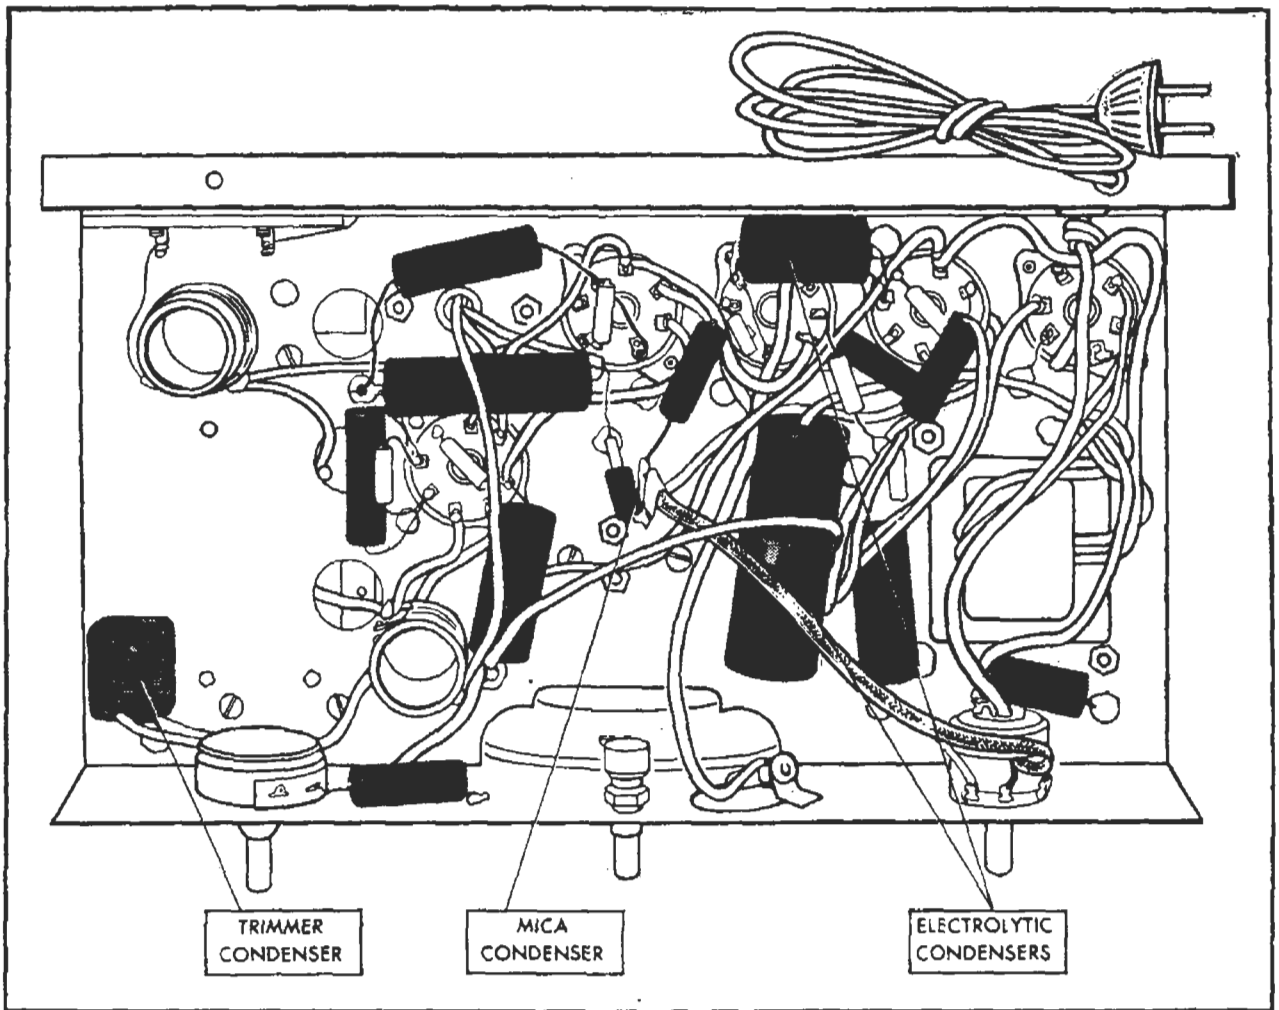

FIG. 17. This shows the condensers underneath the chassis of our superhet receiver. The condensers not marked are paper condensers.
Four different types of condensers are to be found underneath the chassis of our superheterodyne receiver—*paper* condensers, *electrolytic* condensers, *mica* condensers, and *trimmer* condensers. The illustration in Fig. 17 shows all of these condensers.
**Mica Condensers.** There is only one *mica condenser* in our receiver. It is a tiny unit encased in molded brown Bakelite, and located just about in the exact center underneath the chassis. (See Fig. 17.) The mica con-
**Trimmer Condenser.** As you can see in Fig. 17, there is only one trimmer condenser mounted underneath the chassis. This unit is constructed very much like the trimmer condensers already studied.